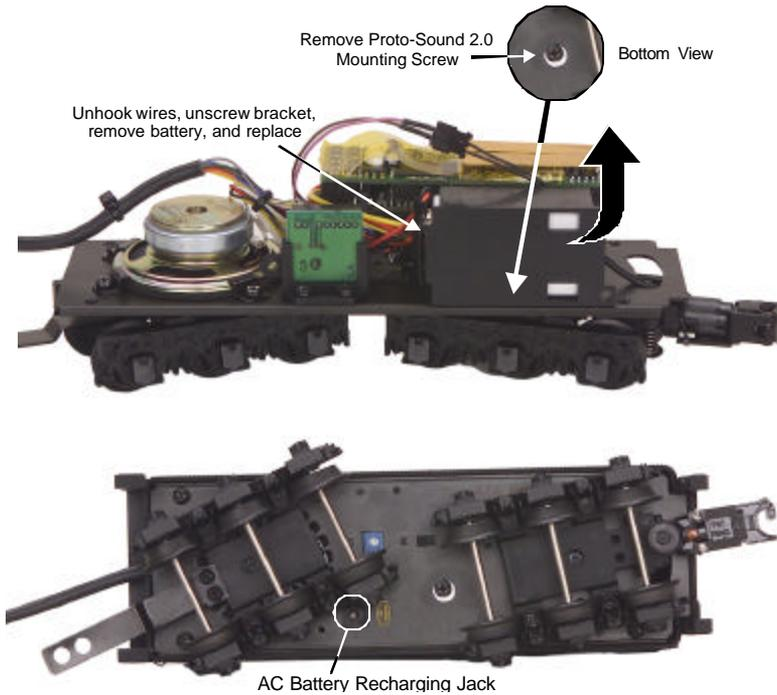

Figure 9. Replacing and Recharging the Battery
- Use M.T.H.'s recharger (sold separately) that plugs into a wall outlet and a special port under the engine (see figure 9 on pg. 15) to recharge the battery overnight.
- Or you can remove the battery (see figure 9 on pg. 15) and charge it in any standard slow charge battery recharger, following the recharger's directions.
**Replace:** If the sounds are not improved at the end of the 15-minute test charge, it is time to replace the battery (see figure 9 on pg. 15).